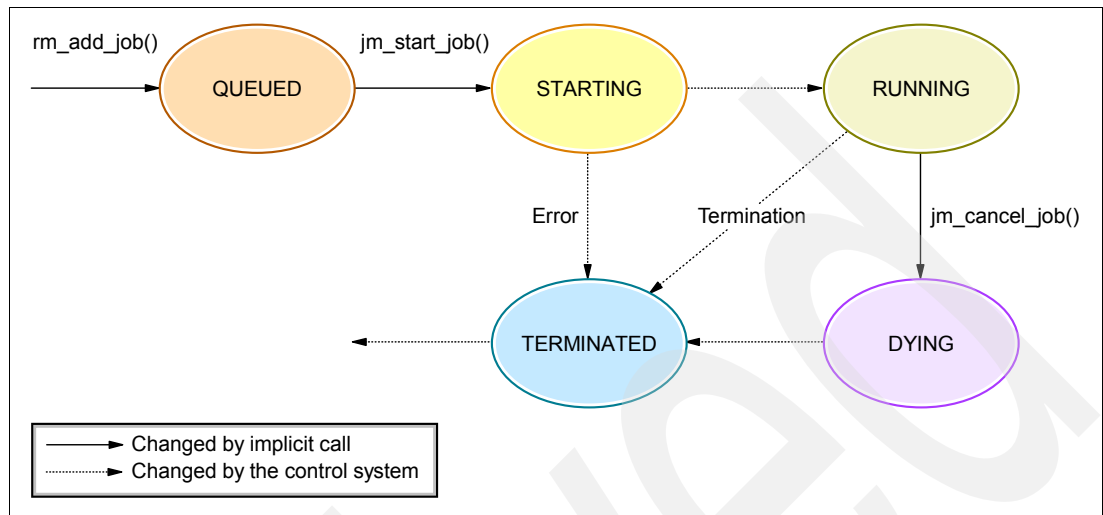
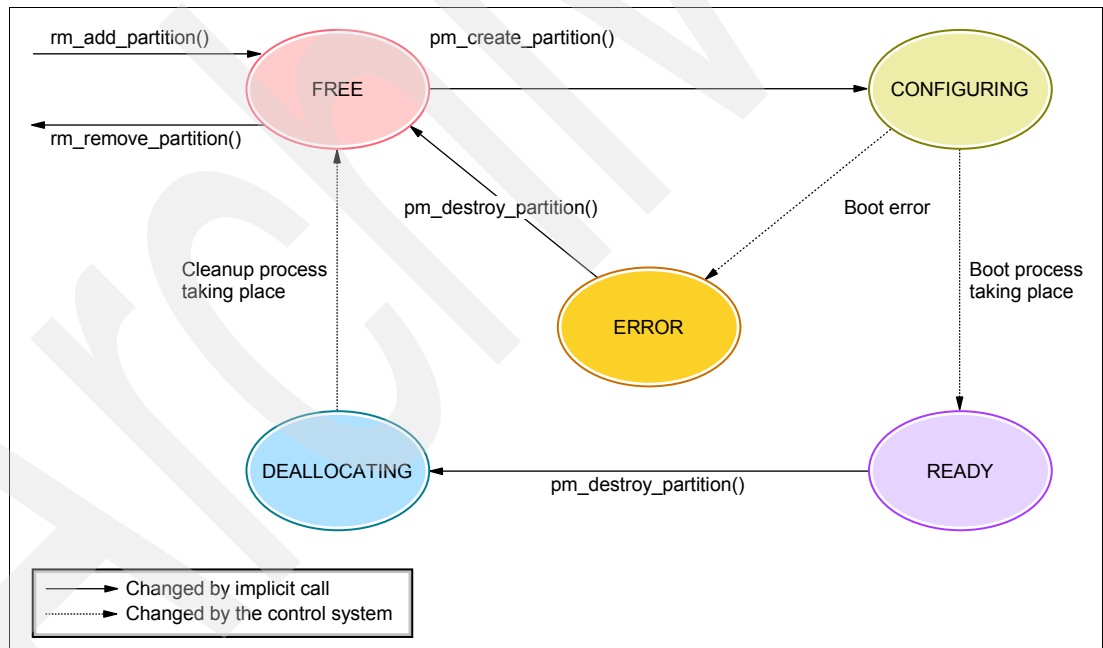

Figure 9-1 Job state diagram
Figure 9-2 Partition state diagram
Figure 9-1 illustrates the main states that a job goes through during its life cycle.
Figure 9-2 describes the various partition states.
- ▶ **INCOMPATIBLE_STATE**: The state of the partition or job prohibits the specific action (see Figure 9-1 and Figure 9-2 for state diagrams).
The partition’s current state forbids its removal. See Figure 9-1 on page 111.
- The current state of the partition or the job prevents this assignment. See Figure 9-1 on page 111 and Figure 9-2 on page 111.